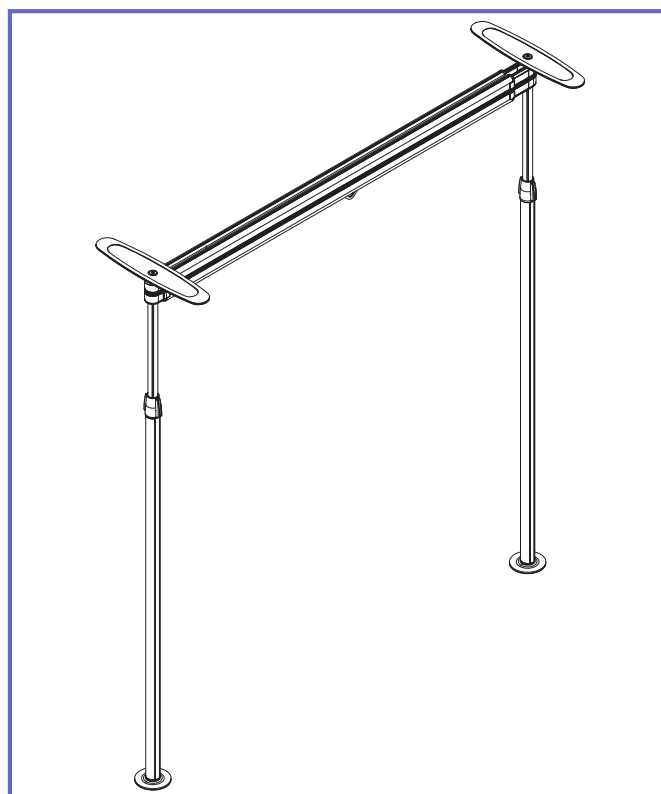

Fig. 27
- Check your installation against Fig. 27.